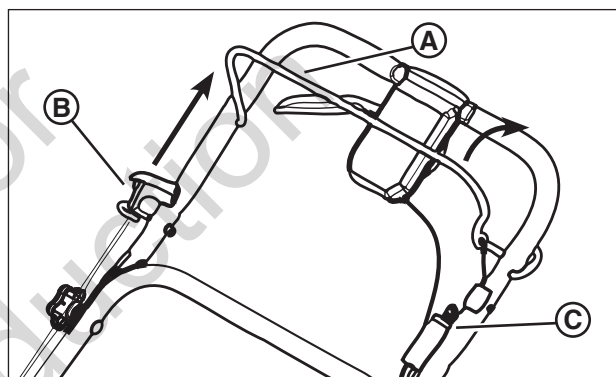

Figure 6: Starting the mower
1. Squeeze and hold the blade control (**A, Figure 6**) against the handle.